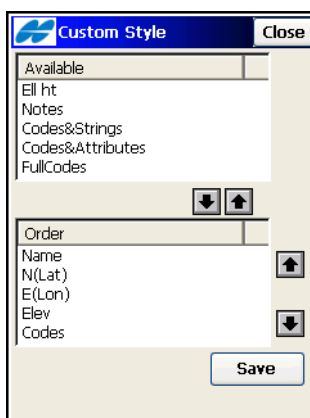

Figure 5-12. Custom Style
**To customize the format**, enter the order of data using the *Custom Style* screen (Figure 5-12).
4. Tap **Save** (Figure 5-12). The combination will display in the *Select File Format* drop-down list on the *Text File Format* screen.